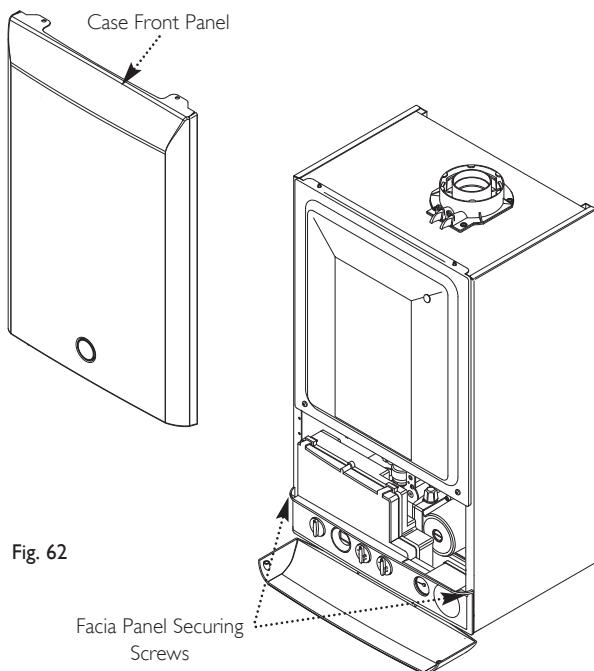

Fig. 62
3. Slacken the screws securing the facia panel. Lift the outer case panel so that its securing tabs are clear of the facia. Remove the panel, allowing the facia to hinge down (Fig. 62).